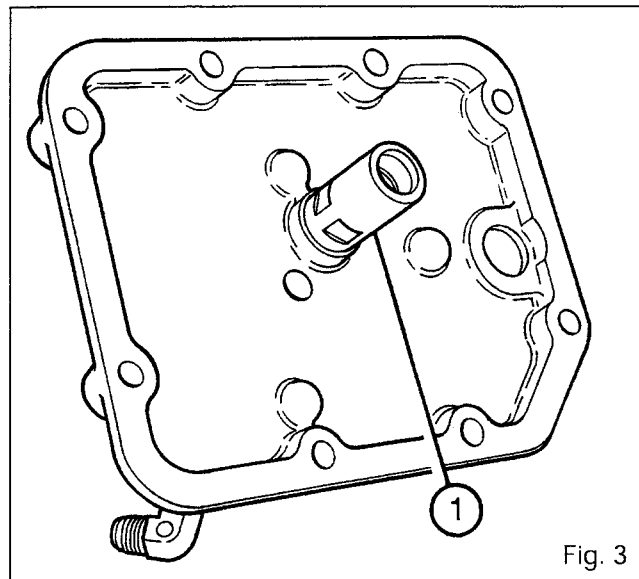

Fig. 3
**Note: As from serial number E240024, a check valve (1) (Fig 3) screwed onto the inner face of the cover maintains a pressure of approximately 5 bar for the lubrication of brakes (see section 9A01).**